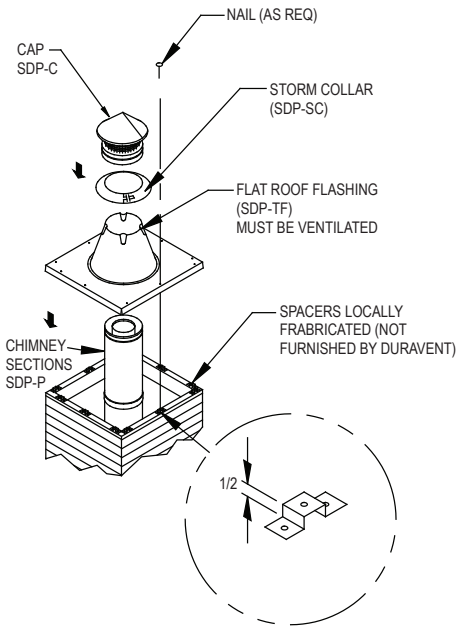

Figure 30
- 2. Mount Anchor Plate:** Chimneys for masonry fireplaces begin with an Anchor Plate. Center the Anchor Plate on a brick or concrete base over the masonry flue opening. Seal the Anchor Plate with a high-temperature sealant, and secure with (4) 1/4-inch masonry anchors. (**Figure 30**). Be sure it is level. The Anchor Plate is available in two styles. One contains the perforated Starter Section, which is used